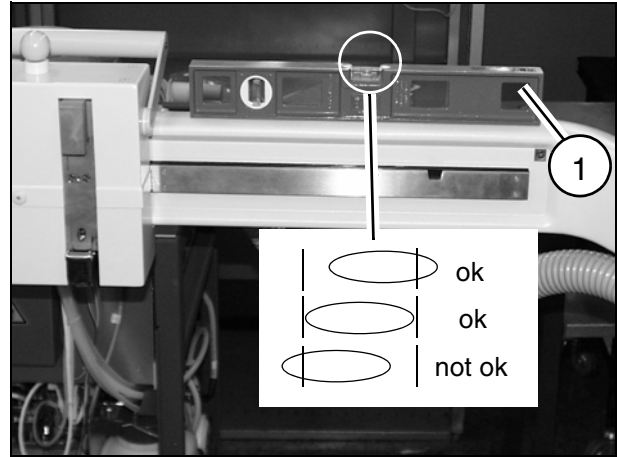

Fig. 35
- place a level on the support arm (1/Fig. 35).
- the air bubble can point to the right, but **not to the left** (Fig. 35). If the air bubble moves to the left side, the spring must be replaced.